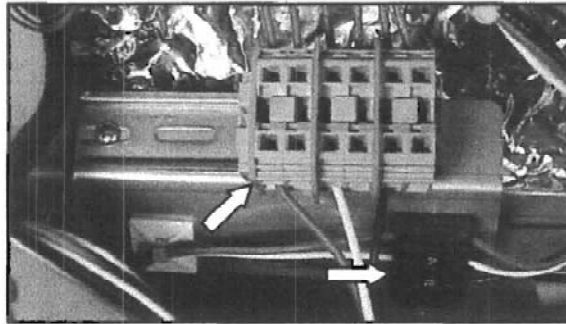

Figure 16A Hot Air Wiring Disconnect
- 8A. Disconnect the three hot air electrical wires from the terminal blocks in both the upper and lower oven sections. Also remove the three wires in the small terminal block below the element wires. (Both sections) See Figure 16A.